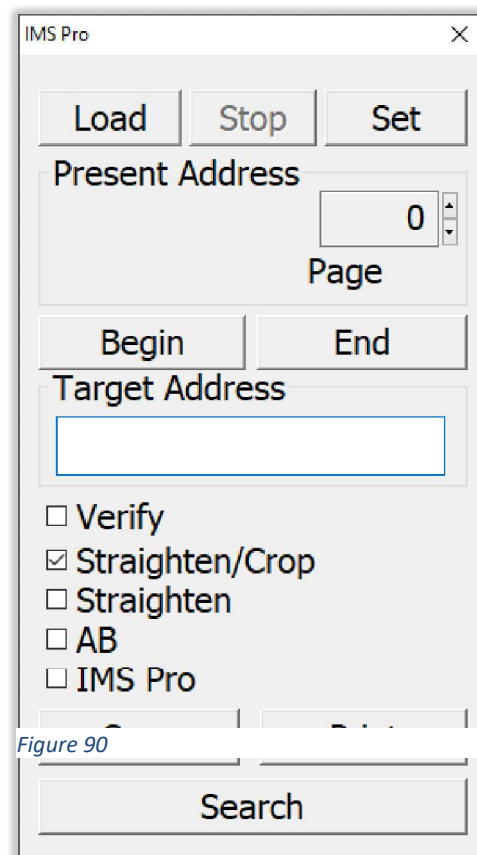

Figure 90
- k. The *Target Address* field is used to navigate the roll of film. *Figure 90*